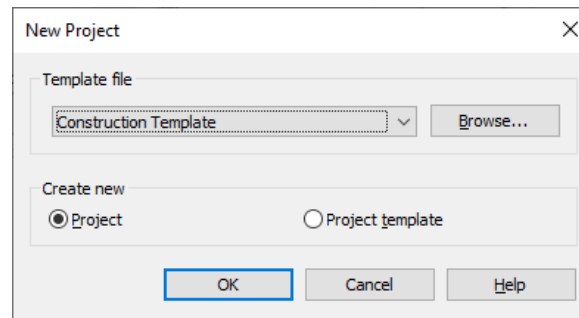

Figure 2-27 The **New Project** dialog box
- b. Use **Systems-Default** (Imperial) or **Systems-Default\_Metric** (Metric) as the template file for the project, refer to Figure 2-27.
1. Choose **New > Project** from the **File** menu; the **New Project** dialog box is displayed, as shown in Figure 2-27.